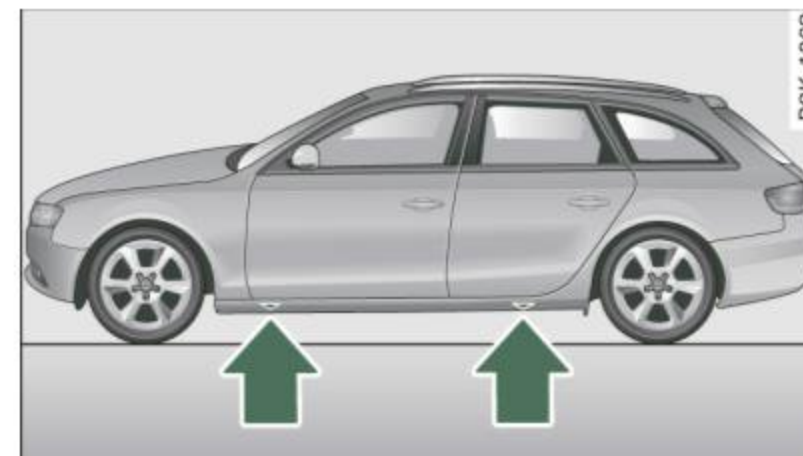

Fig. 231 Changing a wheel: mounting points for the jack
The location of the jack point is indicated by an indentation on the underside of the vehicle ⇒ *page 315*, fig. 231.
- Find the **lifting point** in the sill that is closest to the faulty wheel ⇒ *page 315*, fig. 231.
Only position the vehicle jack at the designated points ⇒ *page 315*, fig. 231. There is exactly *one* location for each wheel. Do not position the jack in any other locations.